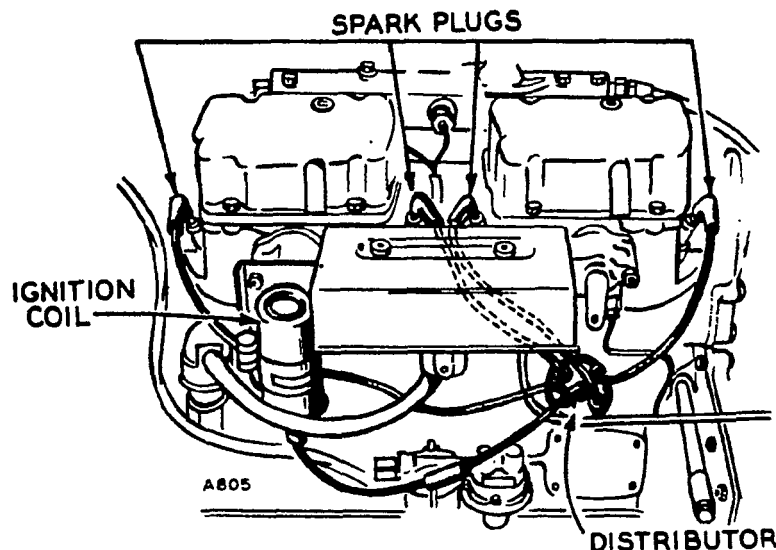

FIGURE 47. IGNITION SYSTEM
The ignition system in the RJC engine uses a battery ignition system with automotive distributor to produce and distribute spark (Figure 47).
5. If spark plug leads were removed from distributor cap, connect them in the 1-2-4-3 firing order (Figure 47).